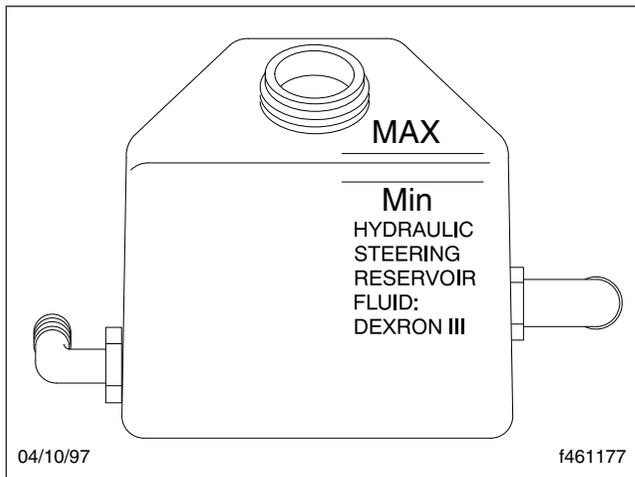

Fig. 10.4, Steering System Hydraulic Fluid Reservoir
8. Check the fluid level in the steering system hydraulic fluid reservoir. See Fig. 10.4.